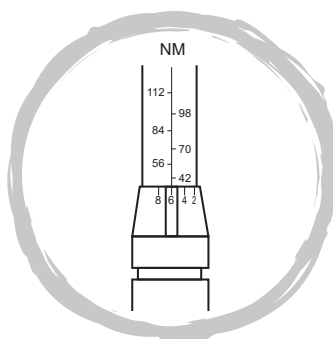

Fig. 2
- Turn the knurled handle clockwise until the required torque value is set (Fig. 2).